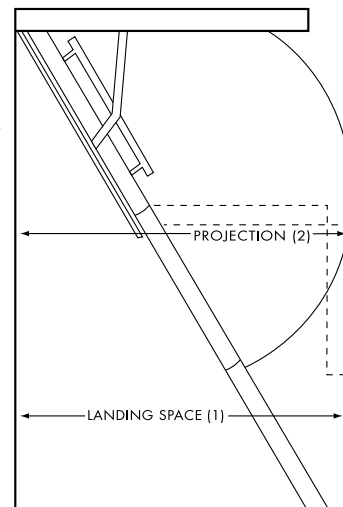

FIGURE 1 - WOOD STAIRWAYS
B. Allow sufficient area for a safe landing space at the bottom of the stairway. Be sure there is enough clearance for the swing of the stair as it is being unfolded to its full length (see FIGURE 1 for "landing space" and "projection"; match the ceiling heights shown on the packing carton with the same ceiling height in TABLE A to determine proper landing space and projection requirements).